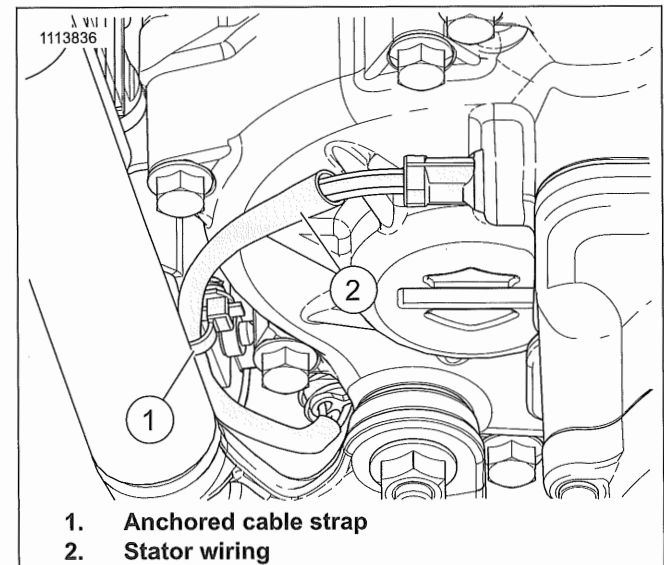

Figure 7-9. Harness Routing
3. See Figure 7-9. Secure stator wiring (2) to frame with **new** cable strap (1). Verify that stator wire does not contact the engine.